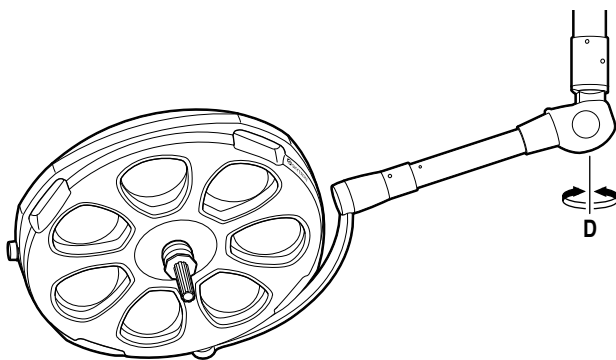

Figure 2-10. Horizontal Rotation
a. Check horizontal rotation axis adjustment by moving the lighthouse through its full range of travel around the Balance Mechanism. See figure 2-10.